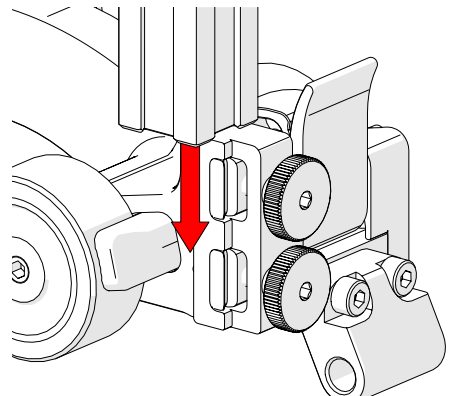

Fig. 40 - Attach frame bar to dovetail
2. Slide the frame bar over the two dovetails of the low profile link (*Fig. 40*).